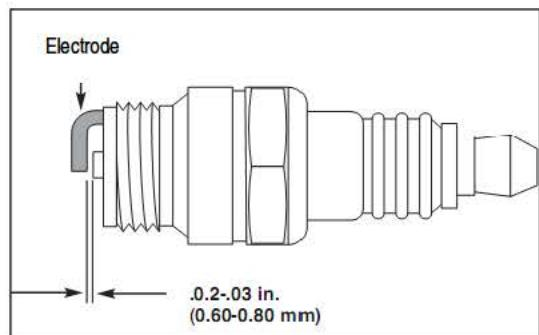

Figure 18
3. Measure the plug gap with a feeler gauge. To ensure proper engine operation, the spark plug must be properly gapped and free of deposits. Correct as necessary by bending the side electrode. See figure 18.